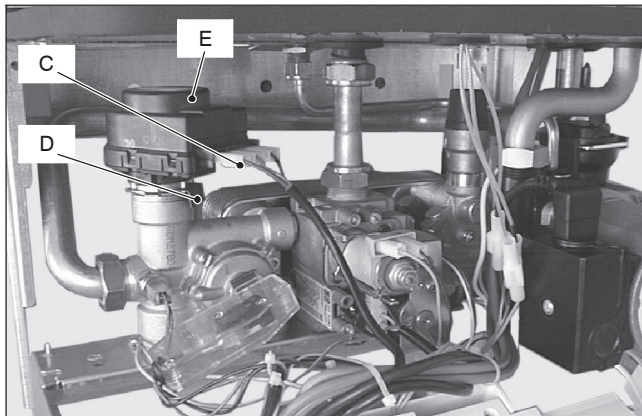

Fig. 4
- 2 Disconnect the connectors C (Fig. 4).